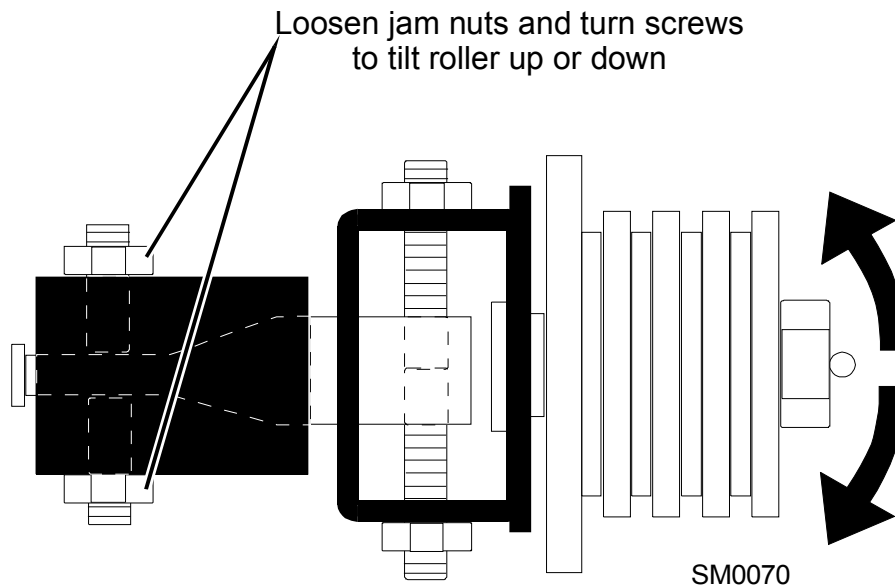

FIG. 4-15
**See Figure 4-15.** Loosen the jam nuts on the top and bottom vertical tilt adjustment screws. To tilt the roller up, loosen the bottom screw and tighten the top screw. To tilt the roller down, loosen the top screw and tighten the bottom screw. Tighten the jam nuts and